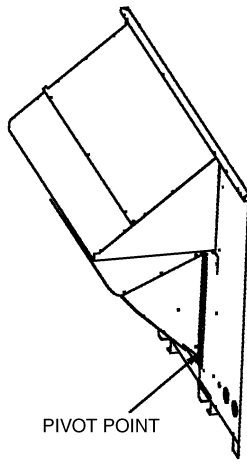

Fig. 5 — Pivot Point on Unit Panel
6. Place the power exhaust/damper assembly into the unit. The accessory should pivot on the unit end panel. See Fig. 5.
3. Place the barometric relief assembly into the unit. The accessory should pivot on the unit end panel. See Fig. 5.